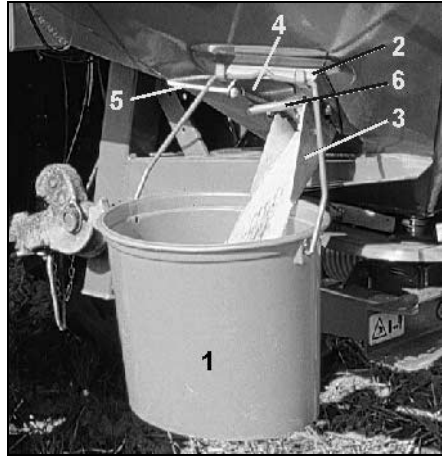

Fig. 31
- Hang the calibration bucket (Fig. 31/1) (option) with its handle (Fig. 31/2) into the retainer (Fig. 31/3). Lock in collecting bucket on the clamping device (Fig. 31/4).
- By pulling the rope (Fig. 31/6) open entirely the lateral slide (Fig. 31/5) of the delivery chute for approx. 5 sec. (in order to achieve an even fertiliser flow). Hereafter pour the collected fertiliser back into the hopper of the broadcaster.